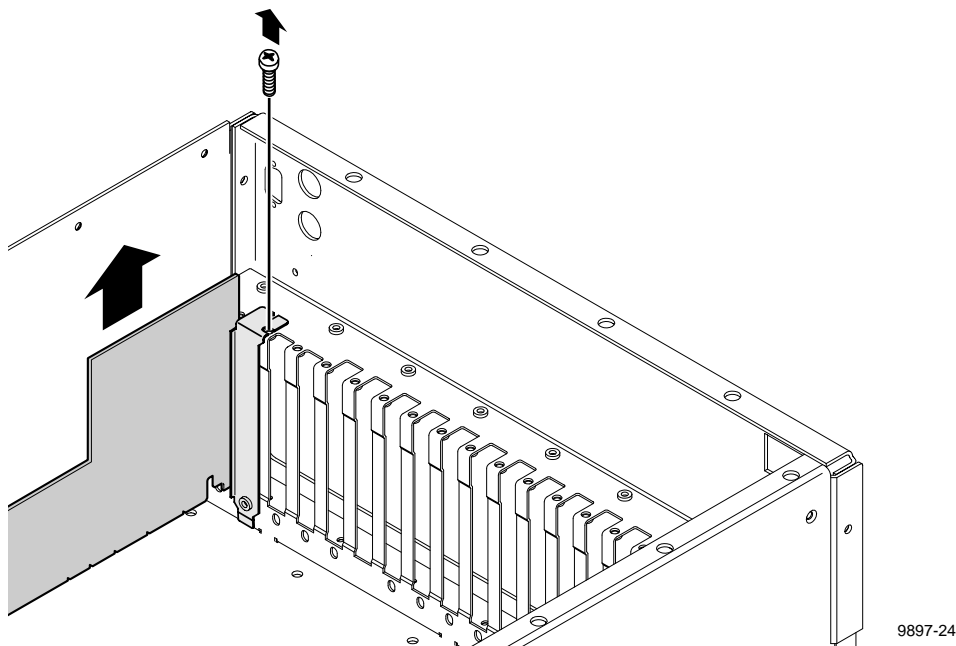

Figure 15. Location of circuit board mounting screw
6. The VGA-I/O board is located in slot J2. Remove the circuit board mounting screw as shown in Figure 15. If the VGA monitor cable is connected to the board disconnect it now.